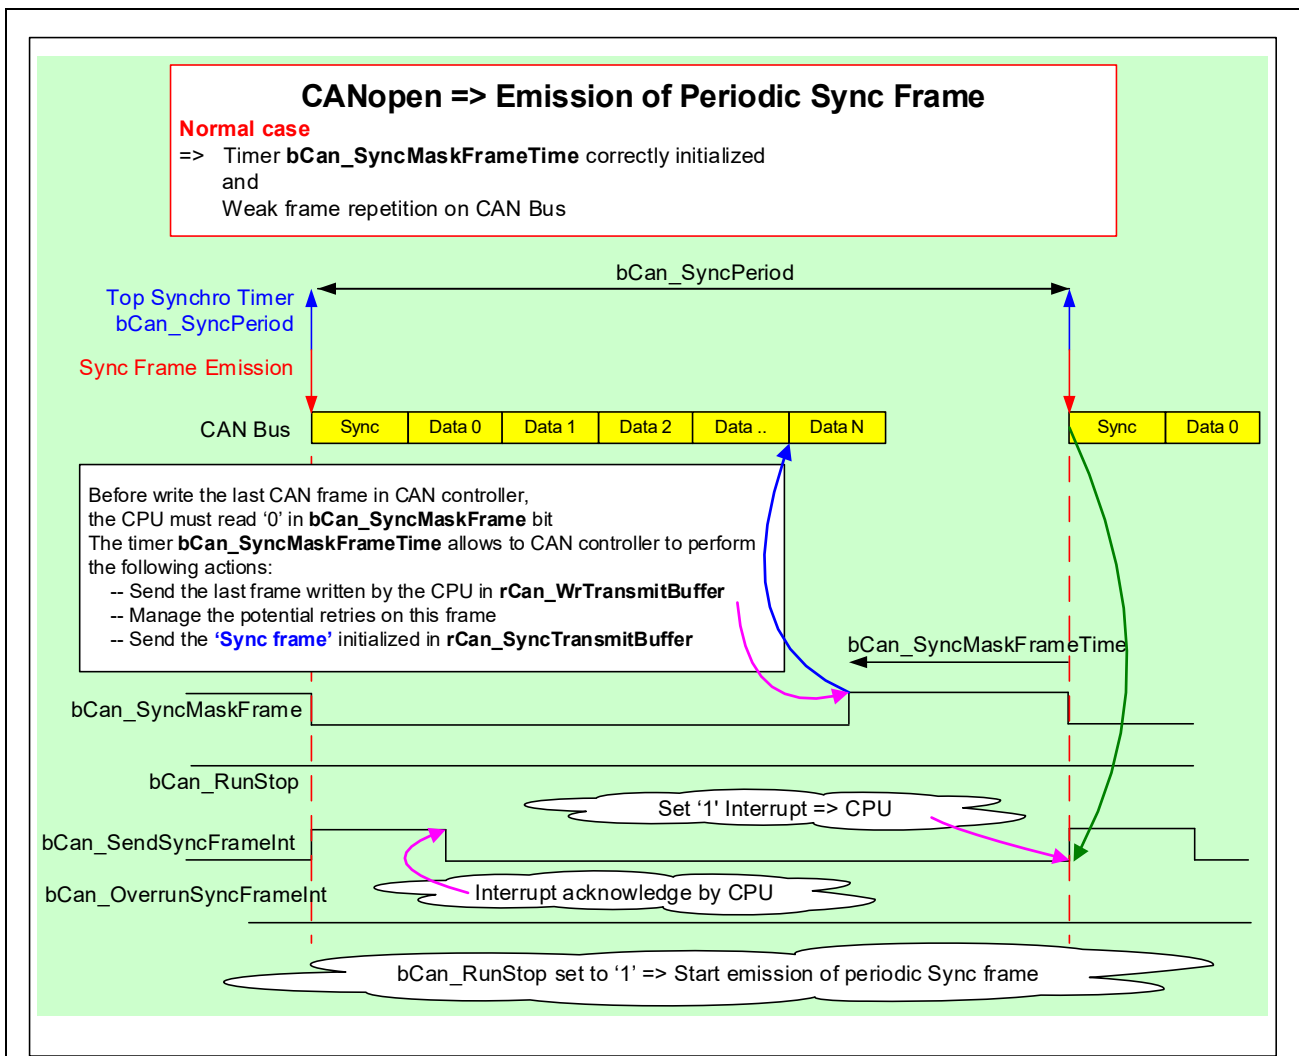

Figure 6.4 CANopen: Emission of Periodic Sync Frame
- See **Figure 6.4, CANopen: Emission of Periodic Sync Frame**.